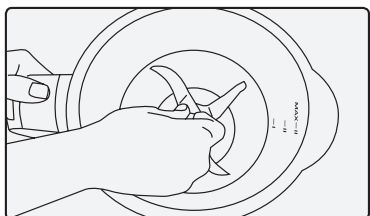

Figure 19
2. Remove the blades from the jug, being careful not to cut yourself (Figure 19).
1. Place the blades into the jug fitting, being careful not to cut yourself (Figure 19).